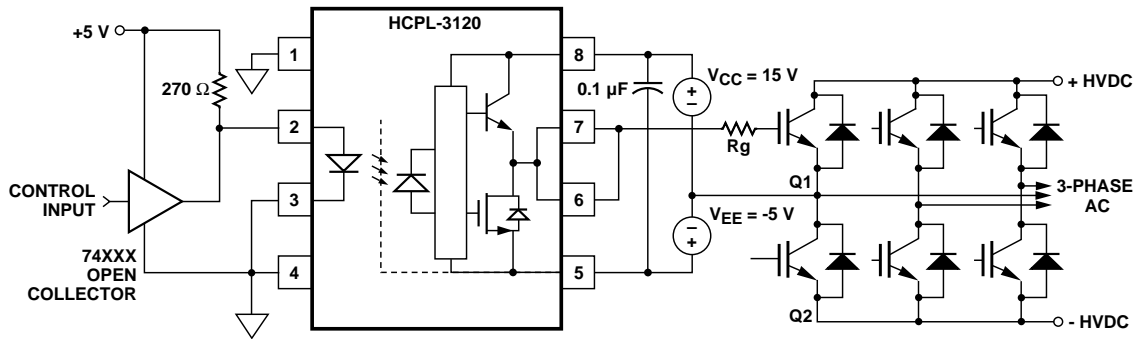

Figure 26. HCPL-3120 Typical Application Circuit with Negative IGBT Gate Drive.
Step 1: Calculate R_g Minimum from the I_{OL} Peak Specification. The IGBT and R_g in Figure 26 can be analyzed as a simple RC circuit with a voltage supplied by the HCPL-3120.
For the circuit in Figure 26 with I_F (worst case) = 16 mA, $R_g = 8 \Omega$, Max Duty Cycle = 80%, $Q_g = 500 \text{ nC}$, $f = 20 \text{ kHz}$ and $T_A \text{ max} = 85\text{C}$: